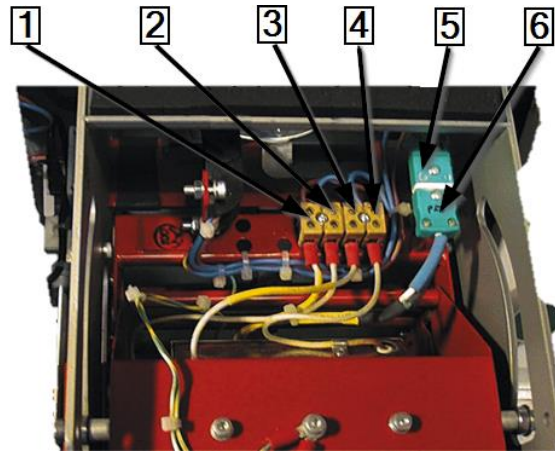

Fig. 70 : Electrical and thermal connections
- ➔ Remove the 2 fixing screws of the bottom heating element (2).
- ➔ Join up all electrical and thermal connections of the top and bottom heating elements. See Fig. 70 : Electrical and thermal connections, page 102.